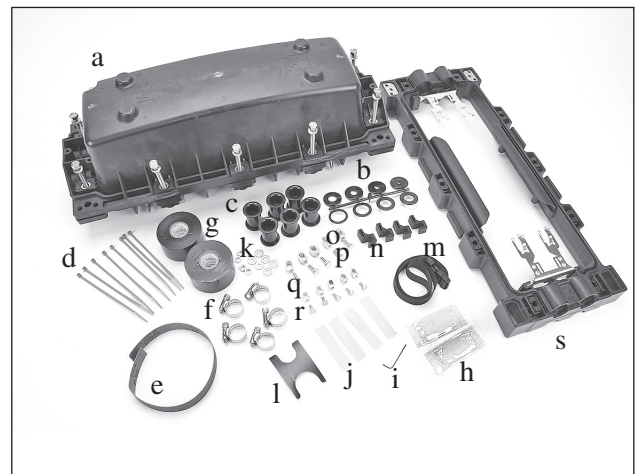

Figure 5
4.5 3M™ Splice Closure 2178-LS +81 and 2178-LS/FR +81 Kit Contents (Figure 5):